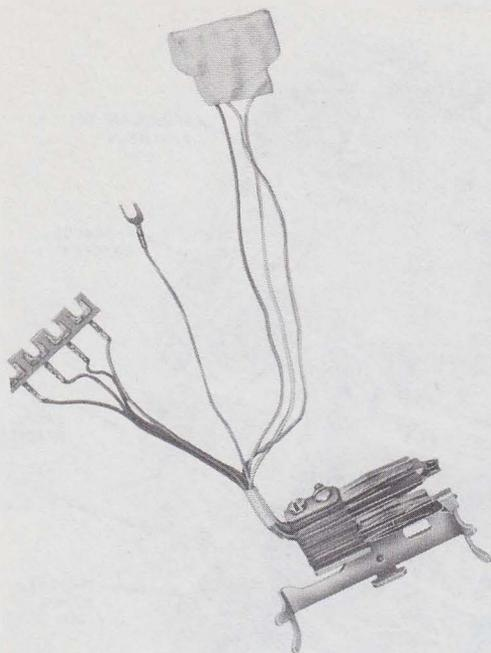

Fig. 7—P-25E118 Exclusion Switch
2.10 The P-25E118 exclusion switch assembly terminates in individual and wafer strip spade-tipped conductors (Fig. 7). This allows adaption of the exclusion feature to any one of the pickup buttons.